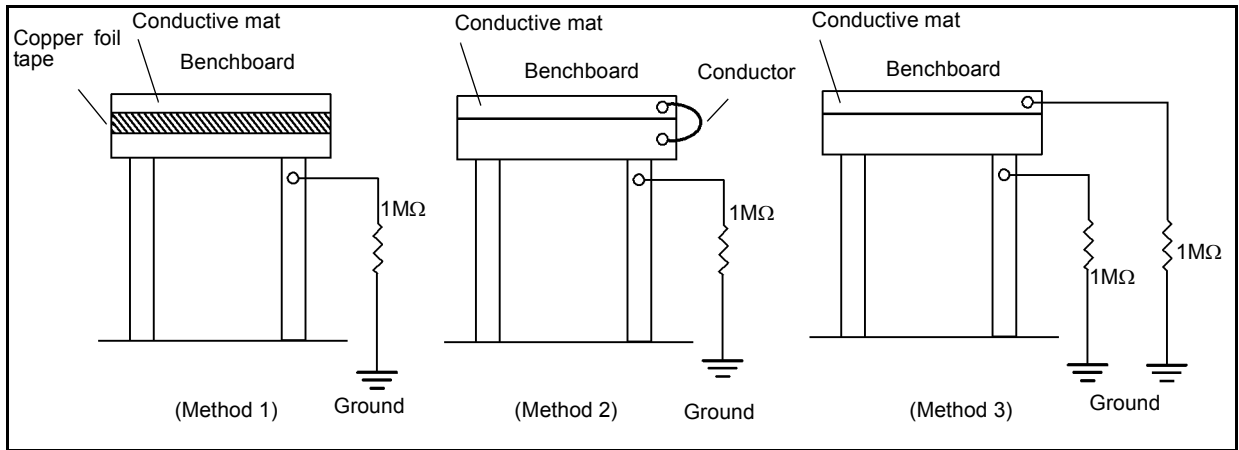

Figure 2-3 Countermeasures for Static Electricity of Work Bench
- Benchboard: Installation of a conductive mat and grounding (see Figure 2-3).